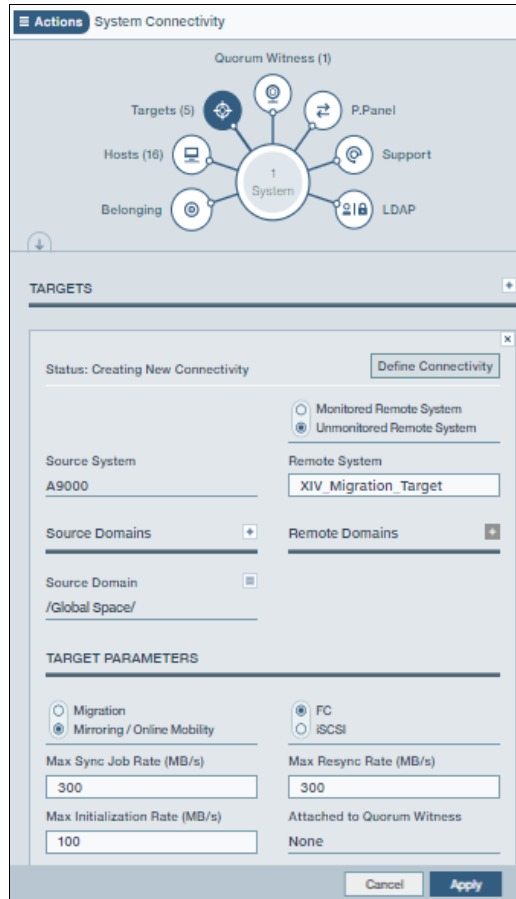

Figure 8-34 Defining a Target in IBM FlashSystem A9000
2. Click **Actions** → **Targets** → **View/Modify Targets** and click the Plus sign (+) icon to add a target, as shown in Figure 8-34.
3. Enter the following information and select the following options, as shown in Figure 8-34: